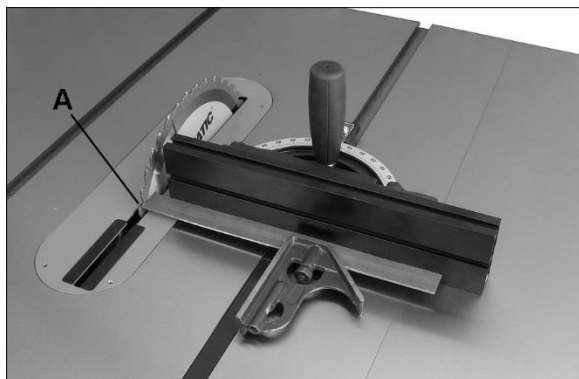

Figure 8-11
5. Rotate marked tooth (A) so that it is slightly above table top at the rear, using the square as before to verify that distance to blade is identical. See Figure 8-11. If the two distances are not the same, make a careful note of the difference.